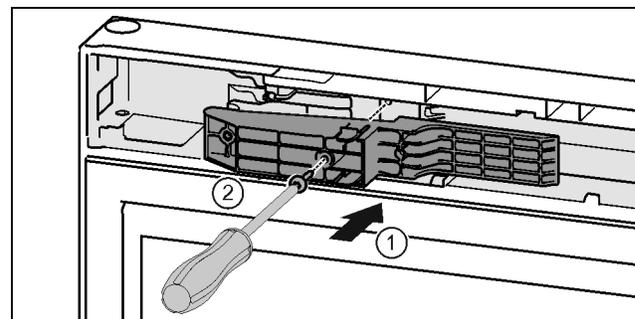

Fig. 46 *
- ▶ Insert the adapter on the handle side in the recess. Fig. 46 (1)*
- ▶ Tighten the screws using the T15 screwdriver. Fig. 46 (2)*